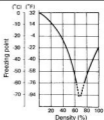

Fig. 1 Engine coolant density-freezing point curve
- If the motorcycle is to be exposed to temperatures below -31°C (-24°F), the percentage of antifreeze should be increased to 55 % or 60 %, according to figure 1.